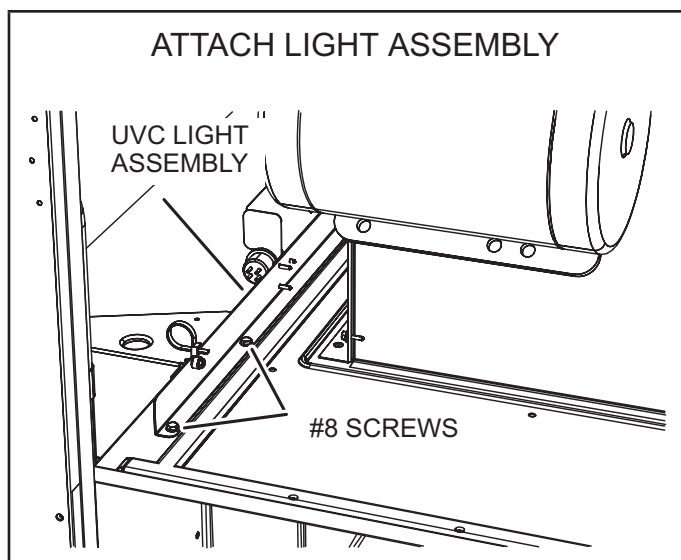

FIGURE 36
- 8 - Carefully place the UVC assembly on the blower deck. Line up the mounting holes on the UVC assembly with the mounting holes on the blower deck. See FIGURE 36. Use the #10 screws provided to attach the UVC assembly in place.